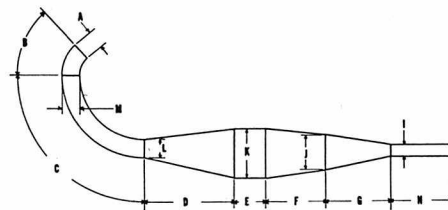

Fig. ST5-4—An expansion chamber of this configuration will yield high RPM power, but will have very little low end torque.
**EXPANSION CHAMBER.** A high speed, low torque expansion chamber for road racing and flat track applications may be constructed with the following specifications. Use 22 gauge cold rolled steel for construction. (See Fig. ST5-4)